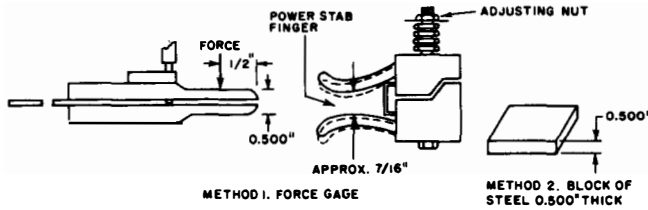

Fig. 95. Adjustment of force on power stabs.
All power stabs should be adjusted by using a force gage (Fig. 95). Each gage is calibrated by applying force one-half inch from the end and obtaining deflection of dial indicator for 45, 50, and 55 pounds. The dial face can be marked for these three loads. Tighten the adjusting nut until the force is 50 ± 5 pounds. The adjusting nut is self-locking.
4. Excessive heat can reduce spring tension on stabs. Therefore, check stab tension per Fig. 95 once each year, or if there is evidence of heating.